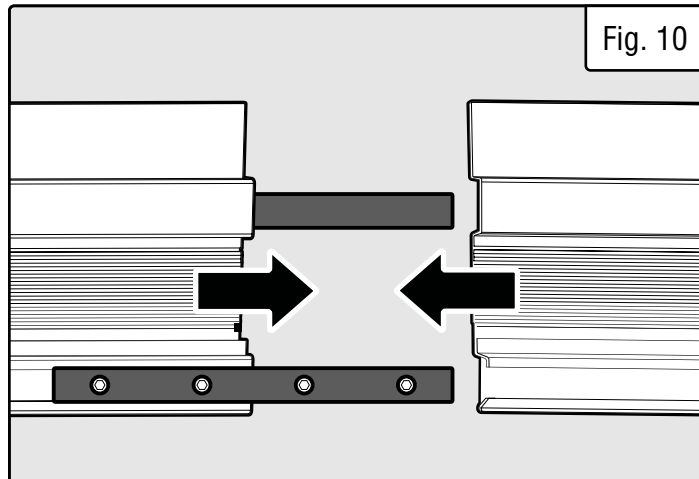
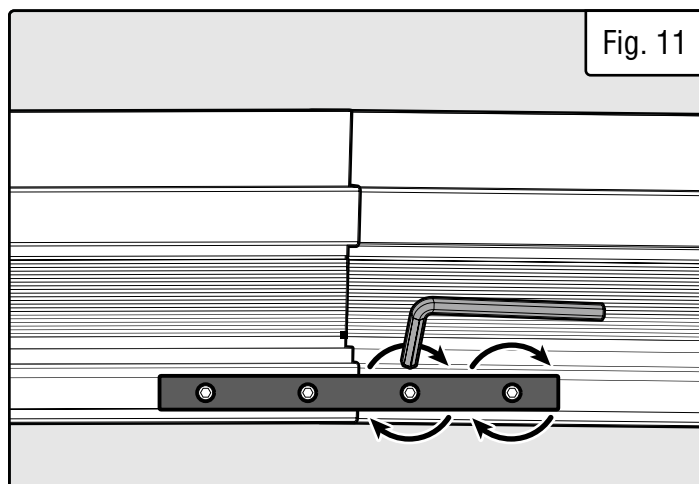

Fig. 10
Fig. 11
4. Guide the two free halves of the track adapters onto another piece of track (Fig. 10) and tighten the hex screws on the face side and the underside (Fig. 11).